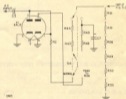

FIGURE 3.3 A.C. VOLTMETER CIRCUIT
a. Normal Position - With reference to Figure 3.3 and the switch in the normal position, the a.c. voltage to be measured is rectified by one-half of the 6AL5 twin diode, and the resultant a.c. voltage is applied to the divider network. Part of this voltage, as determined by the position of the Range Control, is fed to the input grid of one of the triodes of the bridge tube causing the bridge circuit to function. In this normal position the instrument is calibrated to read in terms of RMS voltages of a sine wave.
2. Negative contact potential is developed across the rectifier tube before any input voltage is applied. Due to the normal emission of electrons by the cathode. In either position of the switch (normal or peak-to-peak), this negative potential is applied across the input voltage divider network and would cause the meter to deflect. To compensate for this undesirable deflection, a positive voltage from the 8e supply equal to the contact potential is fed to the voltage divider network through a 50-megohm resistor. The A.C. Voltmeter, 1200 volts, with reference to Figure 3.3 (a), consists of one-half of a 6 Z 5 Diode Rectifier. This rectifier voltage is applied to R48 of the voltage divider network and impressed on a grid of the bridge tube circuit.